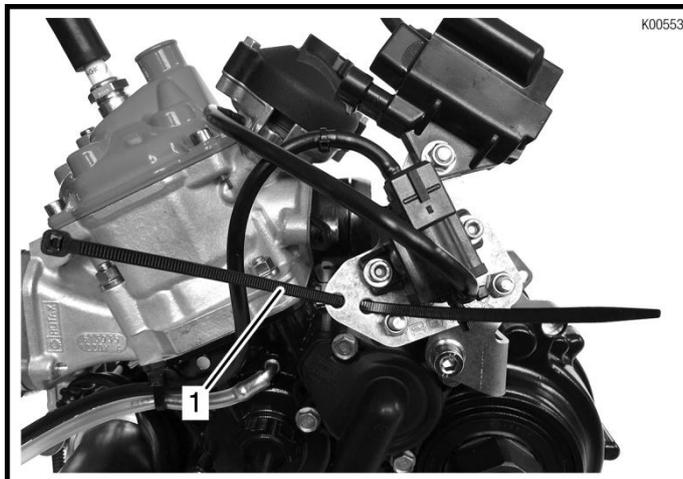

Fig. 17
- ➔ Pre-mount the large cable tie through the two holes provided on the mounting plate. See Fig. 17.